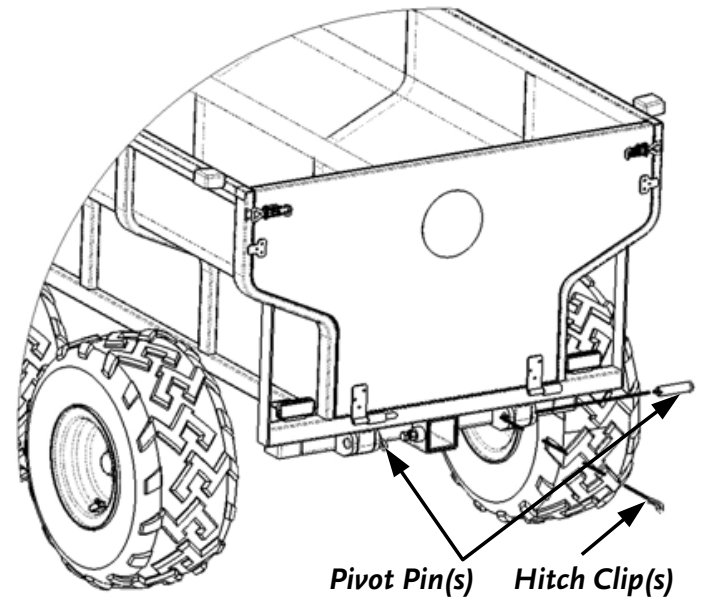

Figure 47
5. Align the Holes though the Dumping Pivots on the Bed with the ones on the Rear Bed Support and install the two Pivot Pins and Hitch Clips (**Figure 47** on page 21).